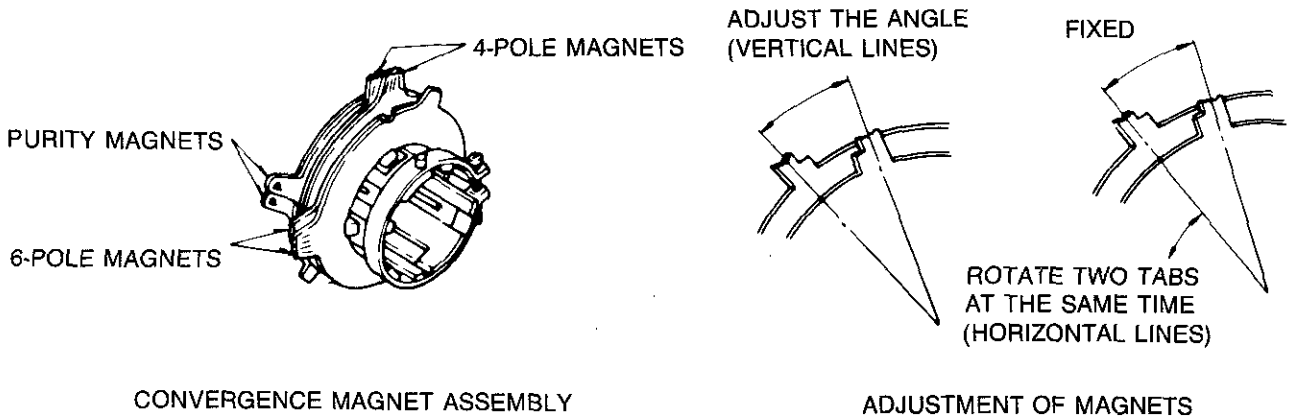

Figure 15
6. Rotate and spread the tabs of the purity magnet (See figure 15) around the neck of the picture tube until the green belt is in the center of the screen. At the same time, center the raster vertically.
3. Adjust two tabs of the 4-pole magnets to change the angle between them (See figure 15) and superimpose the red and blue vertical lines in the center area of the picture screen. (See figure 16.)
4. Turn both tabs at the same time keeping their angles constant to superimpose red and blue horizontal lines at the center of the screen. (See figure 15)